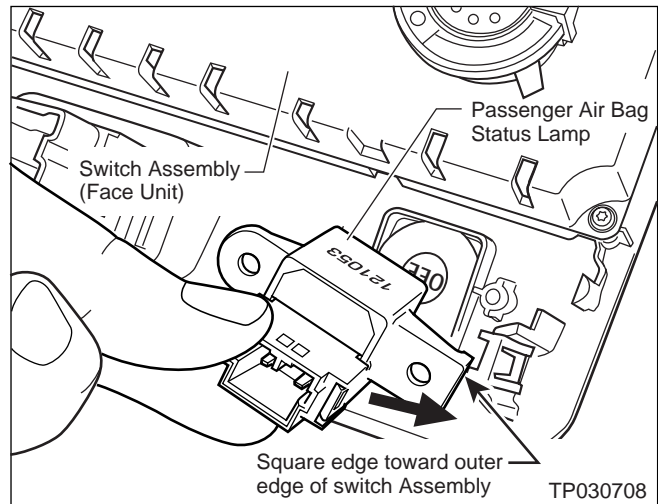

Figure 5
- Make sure it's installed correctly (see Figure 5). Note the square edge.